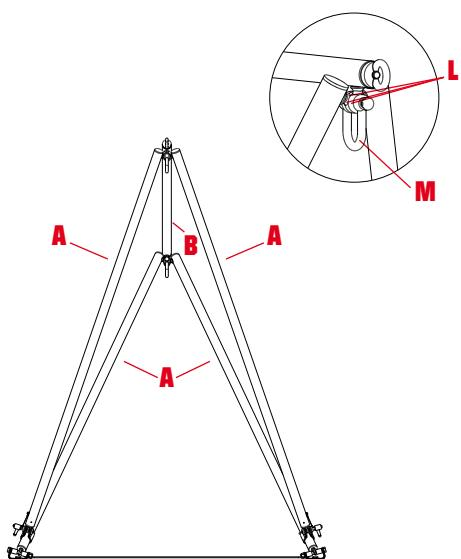

fig. 3
b) Connect the upper bar (B) to the side bars (A) by inserting the shackles (M) through the eyelets (L) - (fig. 3).